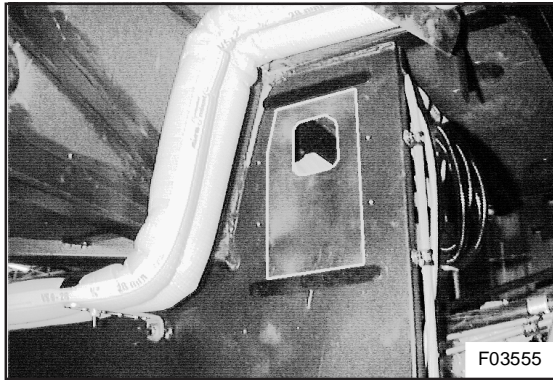

Figure 44: Intercooler outlet closing assembly, completed installation
5. Slide the intercooler outlet closing assembly over the studs protruding into the engine compartment and secure with M6 self-locking nuts . See figure 44 for completed installation.